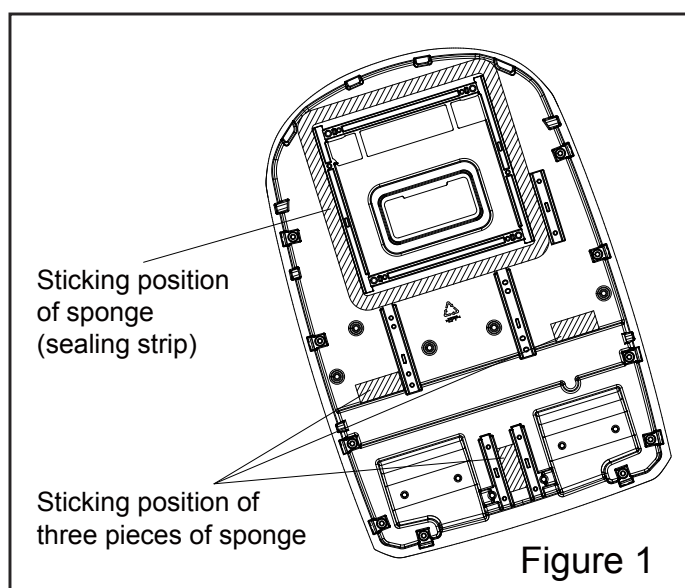

Figure 1
1. Before sticking, clean up the sundries at the sticking position (as shown in Figure 1) of the chassis of the outdoor unit to ensure that the sticking position is clean;
2. Take out one piece of sponge (sealing strip) and three pieces of sponge from the accessories, and tear off the paper on the glue surface and align at the edge of the position as shown in Figure 1 to stick the sponge.